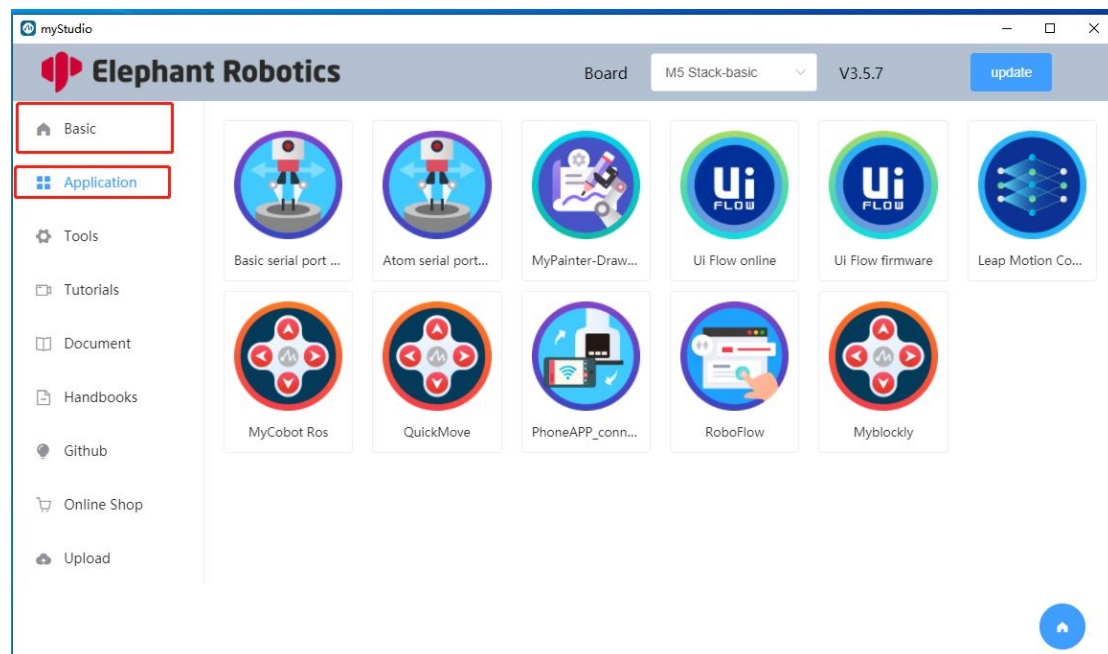

Figure 3.10 Select application page
- 2) Left navigation bar: As shown in Figure 3.10, users can switch pages by clicking on the options on the left navigation bar. Each option represents a page, and the options in blue font are the current page. As shown in Figure 3.10, it is currently the application page.